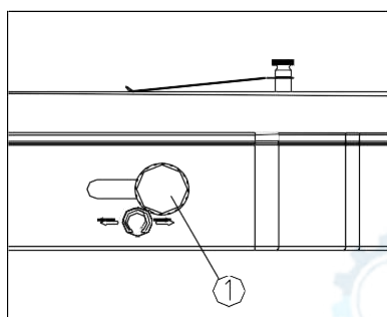

Fig. 14
- 1) Adjusting the adjustment knob ① of the reflector (See Fig. 14), can change the reflector surface, also can change the lighting range after reflected.
- 2) The adjustment knob ① of the reflector can be moved front and rear according to the arrowhead direction, to achieve different lighting effects.